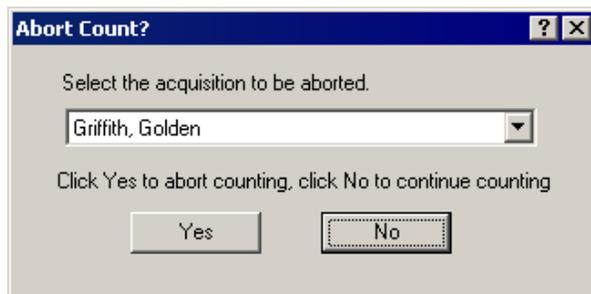

Figure 6. Continue or Terminate?
- 9) To terminate a count before it has finished, click the **Abort Count** button. A dialog will ask you to select the specific count to be aborted (Fig. 6).